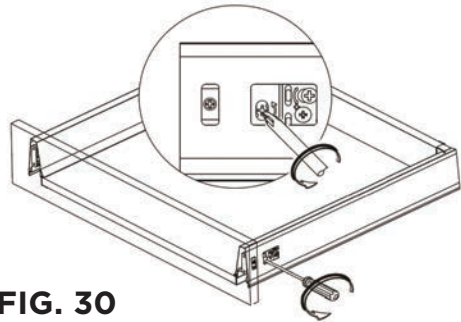

FIG. 30
3. Rotate the unlock screw anti-clockwise to unlock the drawer front on each side. The unlock screw is on the front outer side of each drawer side, triple screw opening, refer FIG 30. Note unlock both sides.